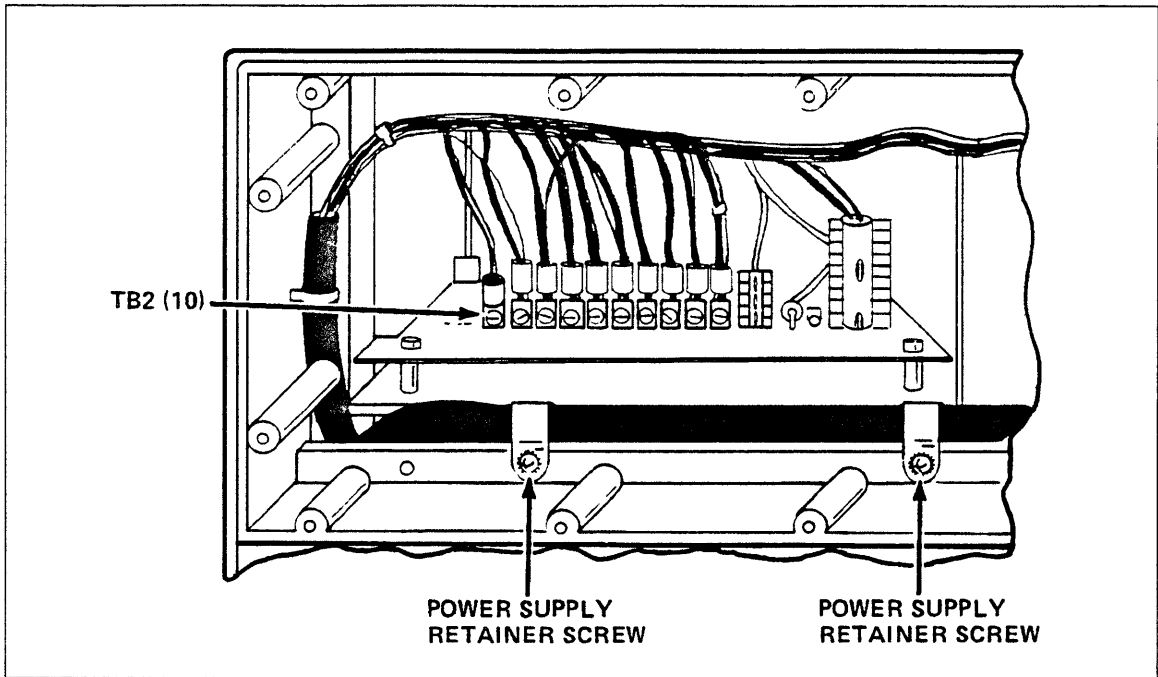

Figure 9-7. Power Supply (Back View)
2. Loosen 10 screws on top of TB2 on back of power supply (figure 9-7). Label (for easy reassembly) and remove wires.
3. Remove two power supply retainer screws on back of power supply that connect it to DI base (figure 9-7).